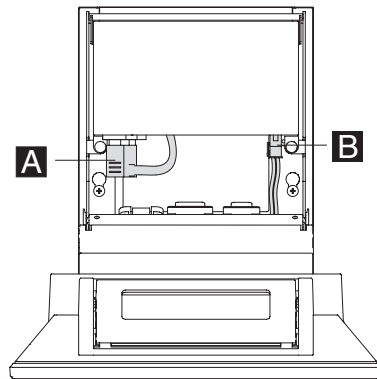

Figure 120. Power supply cable locations
3. Unplug the ac power cord **A** and the power connector cable **B** from the power supply by pulling out on the tab on the power connector and pull the connectors apart. Figure 120 shows the location of the power supply cables.